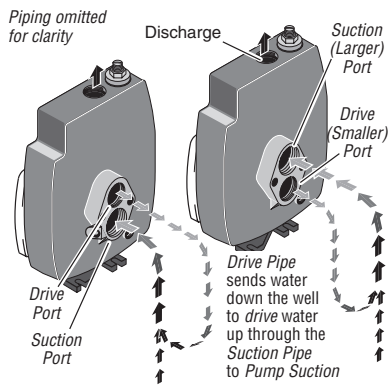

Figure 2 - Drive and Suction Functions
3. If your old pump has the suction pipe (the larger port - see Figure 2) below the drive port, you will need to install flexible pipe between the well head and the pump so that the connection will be correct.